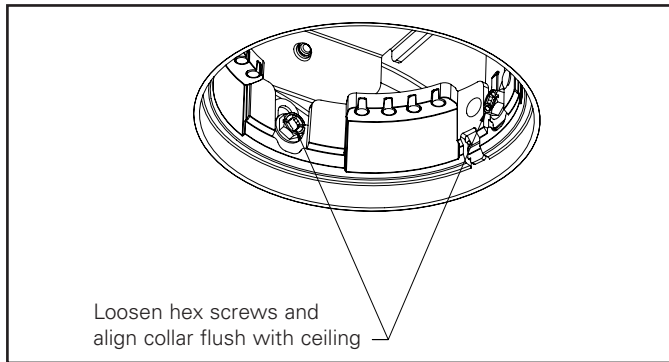
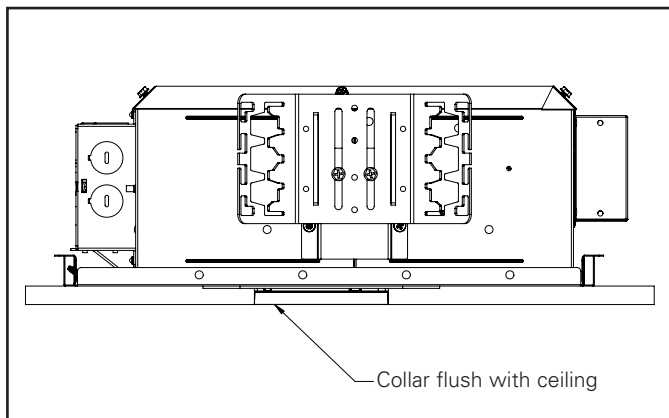

Figure 2.
Figure 4.
2. Once ceiling is installed, remove overspray protector, adjust fixture for ceiling thickness by loosening the 4 hex screws that attach the collar to the housing. Bring the bottom edge of collar flush with the finished ceiling (Figure 2) and tighten 4 hex screws. If ceiling thickness is greater than 7/8" and up to 2-1/2", replace existing collar with extension collar (PCE3* or CA3*) and adjust height using hex screws (see figure 4 and 5) as per the Extension-Collar-installation-instructions sheet # IL53450325. **If Knife edge adaptors (CA3*) are used. Self-Flange adaptor which is part of the housing has to be removed before installing the fixture in the ceiling.**